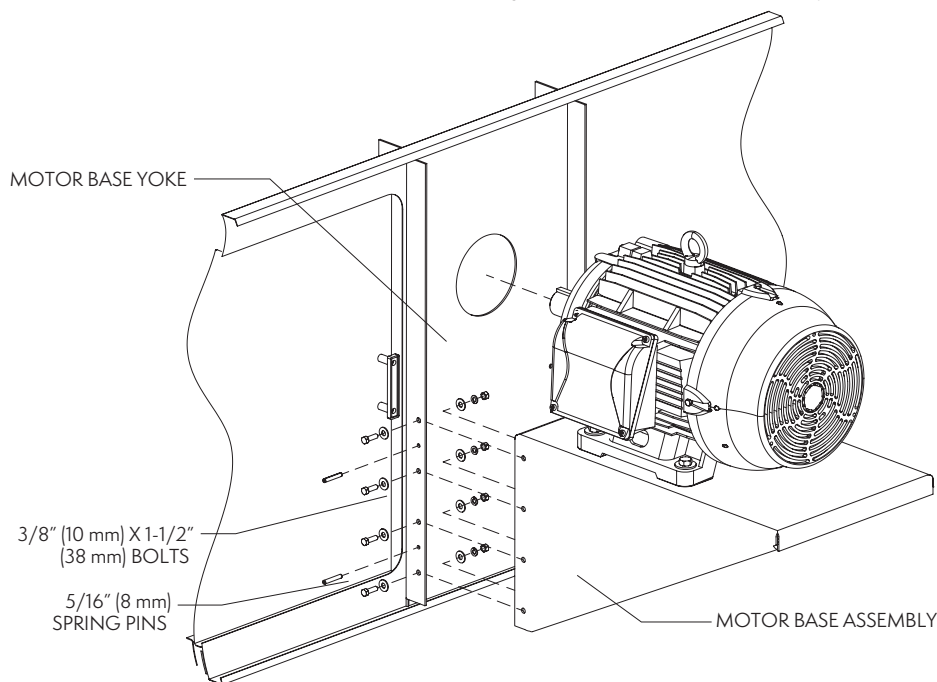

Figure 21 – External Motor Installation for Gear Drive Applications
1. Mount the motor base assembly to the motor base yoke using (4)* 3/8" (10 mm) x 1-1/2" (38 mm) grade 5 bolts on each side of the motor base assembly. Do not fasten any hardware until step 2 is complete.
2. In addition to the grade 5 bolts, install (2) 5/16" (8 mm) spring pins on each side of the motor base assembly as shown in **Figure 21**.